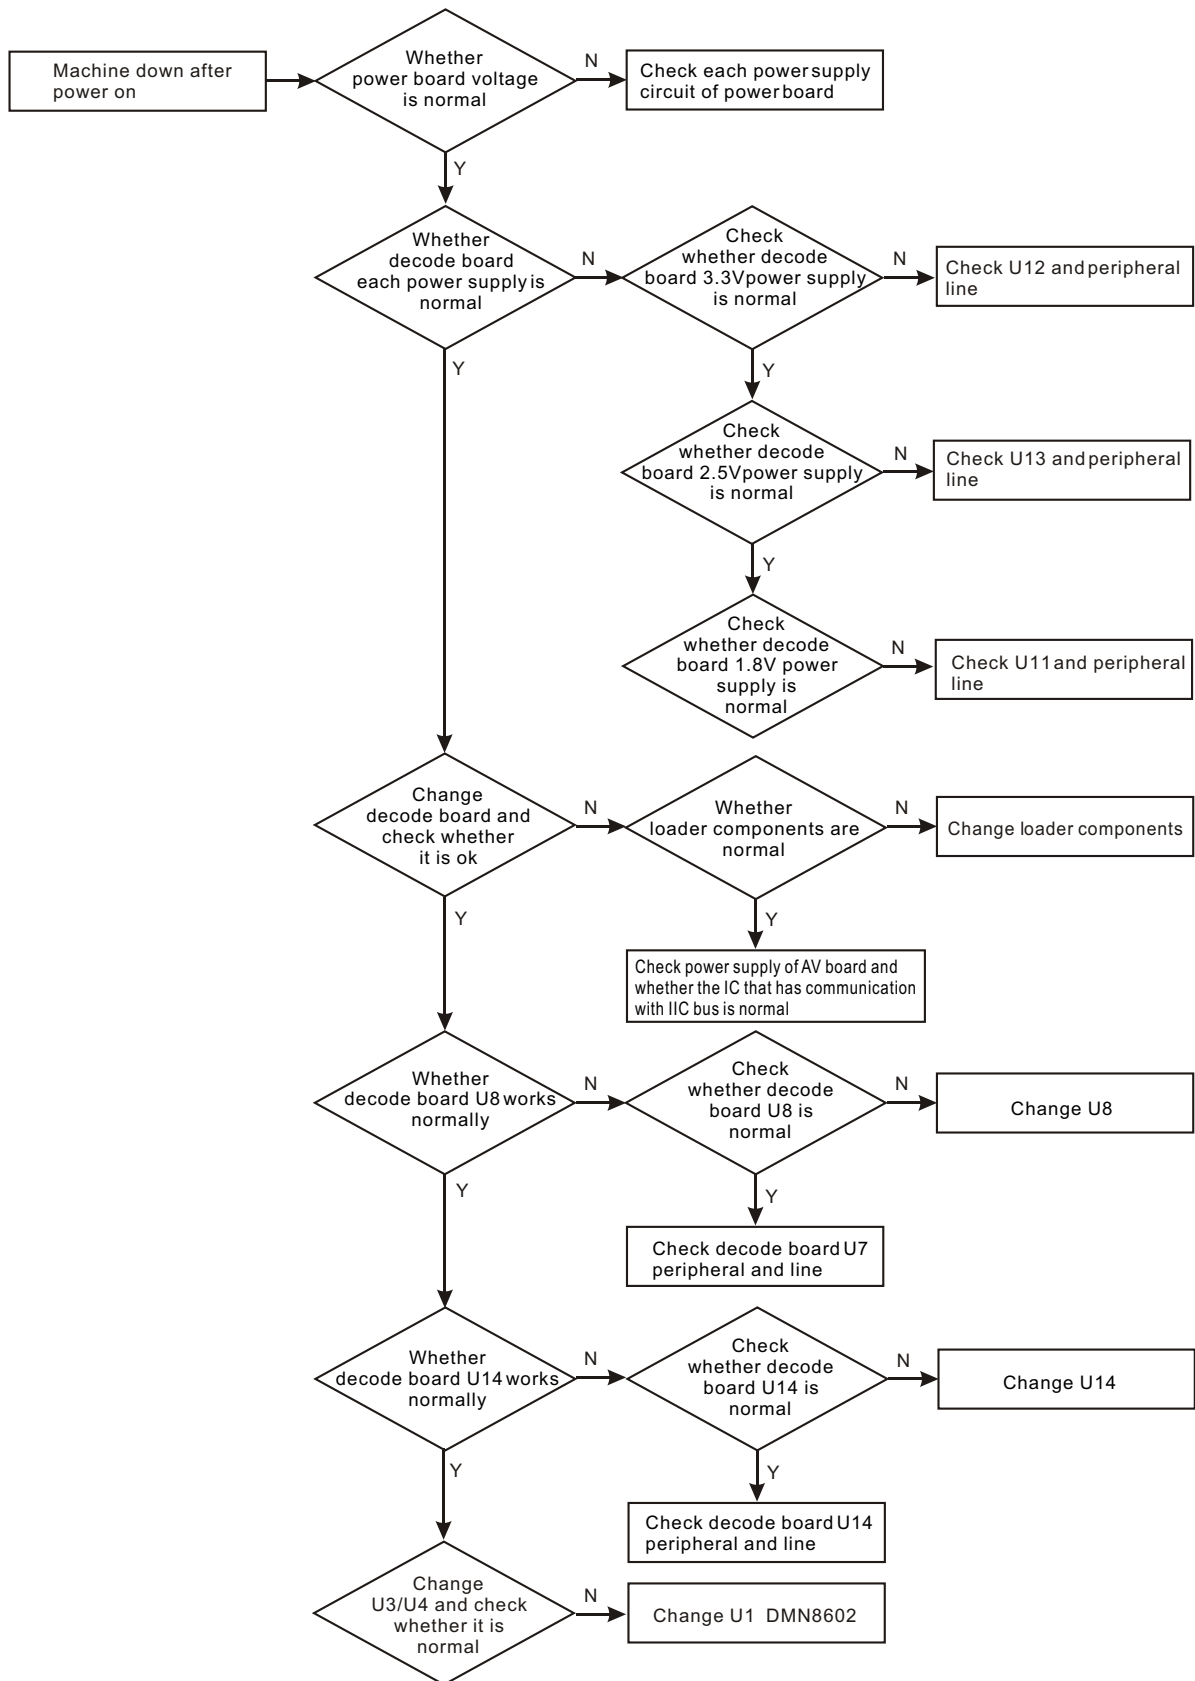

Figure 3.3.2.13 Troubleshooting flow chart for “Machine down after power on”
14. Troubleshooting process for “The player has no output” (no power-on picture and no button function) is shown in the figure 3.3.2.14: